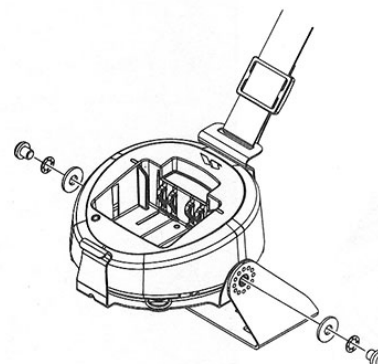

FIGURE 5
5. Mount the Bracket "**VCM-5**" to the Bracket "**B**" with the supplied Screws and Washers using the supplied Hexagon Wrench (Figure 5).